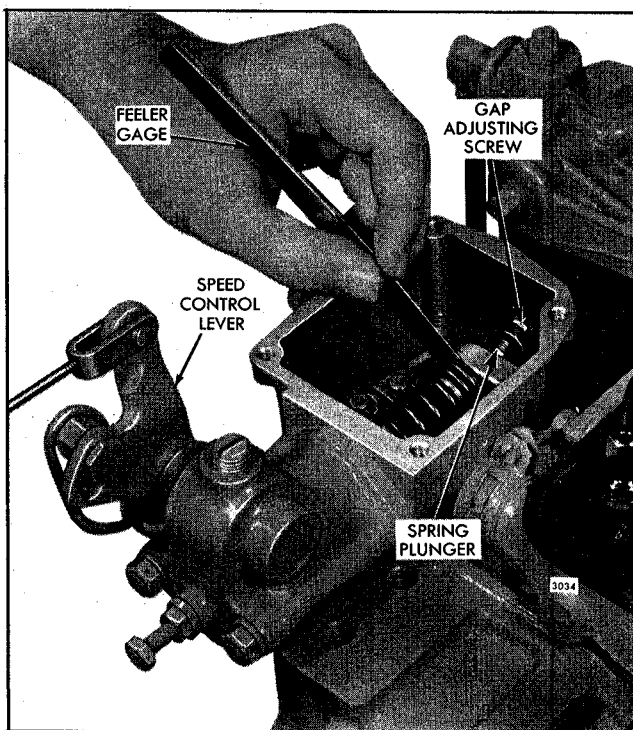

Fig. 9 - Adjusting Governor Gap
4. Insert a .006" feeler gage between the spring plunger and the plunger guide as shown in Fig. 9. If required, loosen the lock nut and turn the gap adjusting screw in or out until a slight drag is noted on the feeler gage.